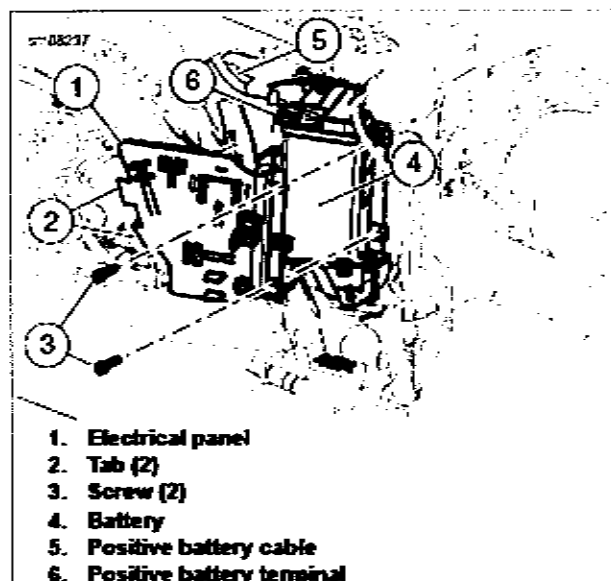
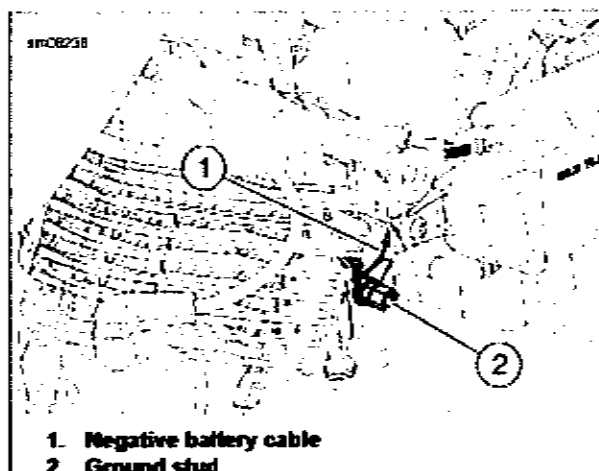

Figure 2-32. Battery
Figure 2-33. Battery Ground Cable
1. See Figure 2-32. Remove electrical panel.
- a. Remove screws (3).
- b. Remove electrical panel (1).
- a. See Figure 2-33. Remove negative battery cable (1) from ground stud (2).
- b. See Figure 2-32. Remove positive battery cable (5) from positive battery terminal (6).
- c. Remove battery (4).
2. See Figure 2-32. Install battery.
- b. Install battery (4) in battery box.
3. See Figure 2-32. Connect battery.
- a. Connect positive battery cable (5) to positive battery terminal (6). Tighten to ~~10-15 N·m (7-11 ft·lb)~~.
- b. See Figure 2-33. Connect negative battery cable (1) to ground stud (2). Tighten to ~~10-15 N·m (7-11 ft·lb)~~.
4. See Figure 2-32. Install electrical panel.
- a. Install electrical panel (1).
- b. Verify electrical panel tabs (2) are inserted into slots.
- c. Install screws (3). Tighten to ~~10-15 N·m (7-11 ft·lb)~~.